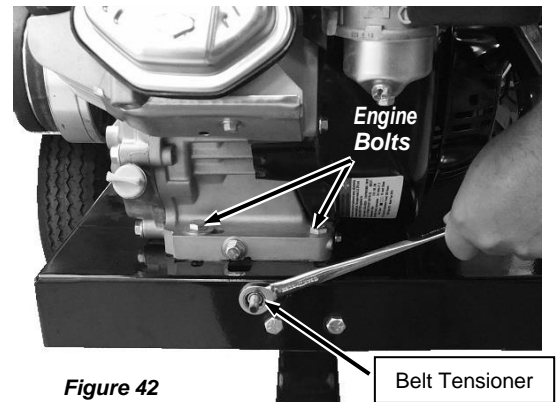

Figure 42
5. Loosen the four Engine Bolts (two on the left side and two on the right side) using two 9/16" Wrenches (**Figure 42**).
7. If the measurement is not correct, loosen the Engine Bolts and tighten or loosen the Adjusting Nut as needed (**Figure 42**).